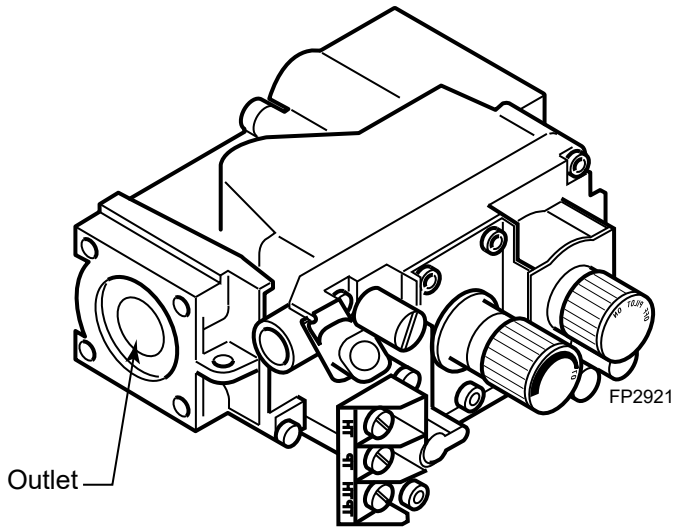

Fig. 2 SIT Valve
4. Install gas valve to bracket using four (4) screws provided. Valve will be angled up slightly. **IMPORTANT: Make sure the gas valve is oriented properly. The valve outlet is on the same side as the terminal block.** Figure 2